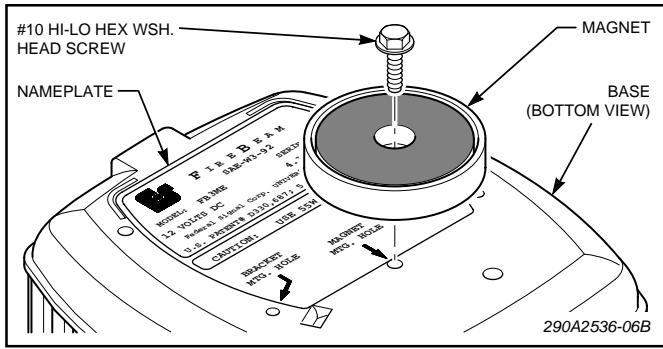

Figure 1.
A. See figure 1. Observe the nameplate on the light assembly's bottom, and locate the proper mounting hole for the magnet.
B. See figure 1. Insert the #10 Hi-Lo screw through the magnet and into the proper mounting hole in the bottom of the light assembly. Tighten securely.